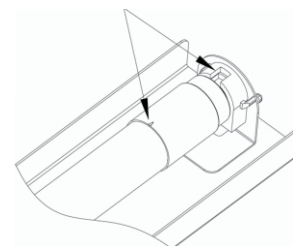

Fig1
7. Note: Risk of fire, Pls notice that tube must be well installed. Mark on end caps showing proper alignment with sockets. Pls make sure mark is matched with socket as Fig1: